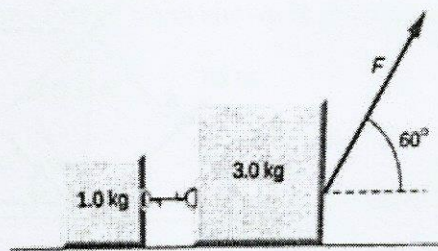

Fig Q5b
- b) Two blocks connected by a string are pulled across a horizontal surface by a force applied to (10) one of the blocks as shown in the figure [Fig Q5b]. The coefficient of friction between the blocks and the surface is 0.26. If each block has an acceleration of  $3\text{m/s}^2$  to the right, what is the magnitude of the applied force  $F$ .